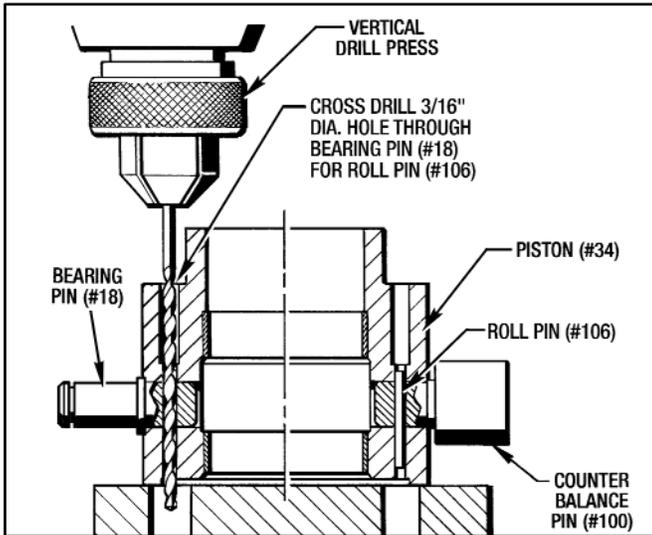

Figure 7.7 - Cross Drilling Piston Bearing Pin (#18)
- Cross-drill a 3/16" hole through the Bearing Pin (#18) and install a Roll Pin (#101) into the Piston (#34) as shown in Figure 7.7.